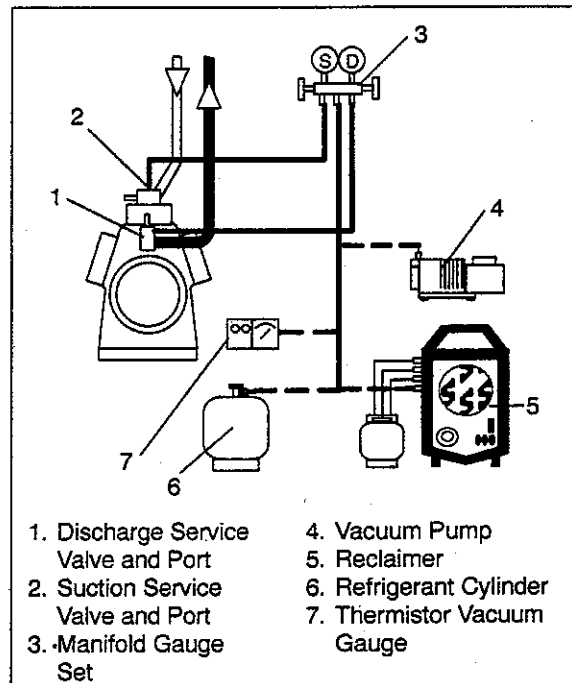

Figure 4-6 Compressor Service Connections
- Attach a manifold gauge set as shown in Figure 4-6 and isolate the compressor by front seating the suction and discharge valves.
- a. Install manifold gauge set. Refer to *Figure 4-6*.